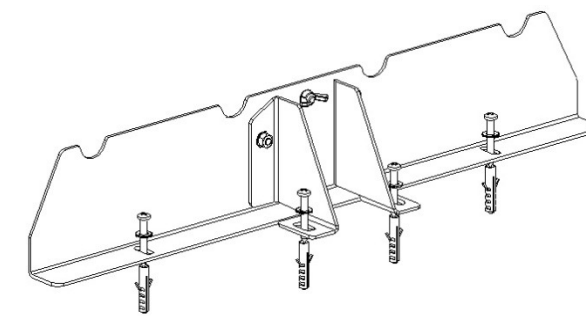

Figure 7
e) Mark the center of the Front Support and drill using a $\text{Ø}6\text{mm}$ (Concrete) Wídea drill bit. Secure it with the included anchors and screws, as shown in Figure 7.